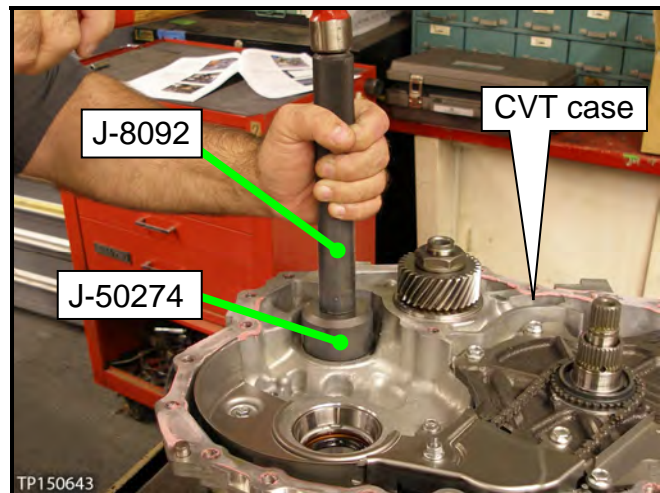

Figure 60
2. Install the new outer races using Race Installer J-50274 from Tool Kit J-50255, and Driver handle J-8092 (see Figure 60 and 61).
NOTE: The tools shown in Figure 60 and 61 are similar but may not look exactly the same as J-50274 and J-8092.